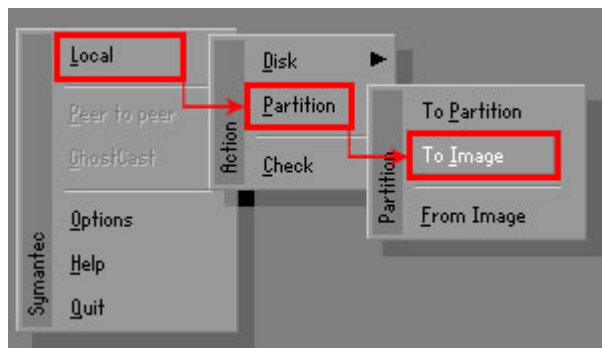

Figure B-10: Symantec Ghost Path
Step 4: Use mouse to navigate to the option shown below (Figure B-10).